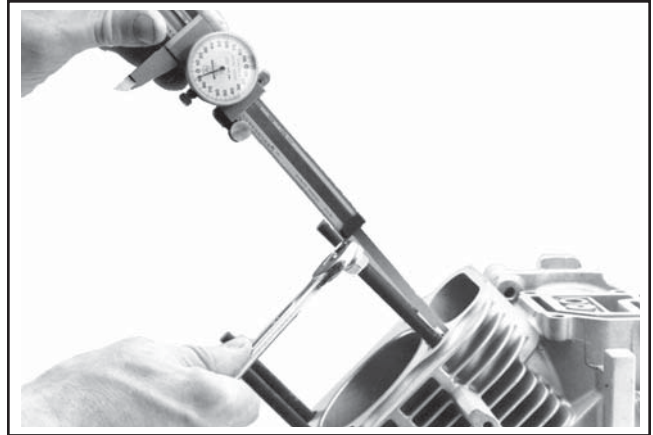

Figure 10-31. Installing New Mounting Studs to Specified Height.
- b. Thread the opposite end of the stud, with the preapplied locking compound, into the crankcase, until the specified height from the crankcase surface is achieved. See Figure 10-31. When threading in the studs, use a steady tightening motion without interruption until the proper height is obtained. Otherwise the frictional heat from the engaging threads may cause the locking compound to set up prematurely.